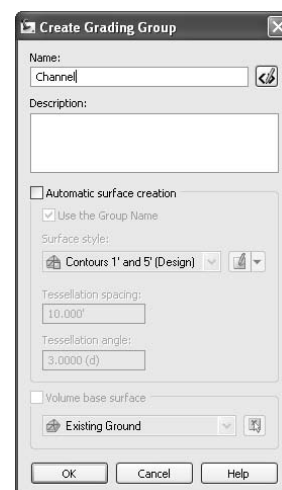

Figure 12.17
3. Select the Set Grading Group button on the far left, and the Site dialog will appear. Verify that Channel is selected in the drop-down list, and then click OK to display the Create Grading Group dialog shown in Figure 12.17.